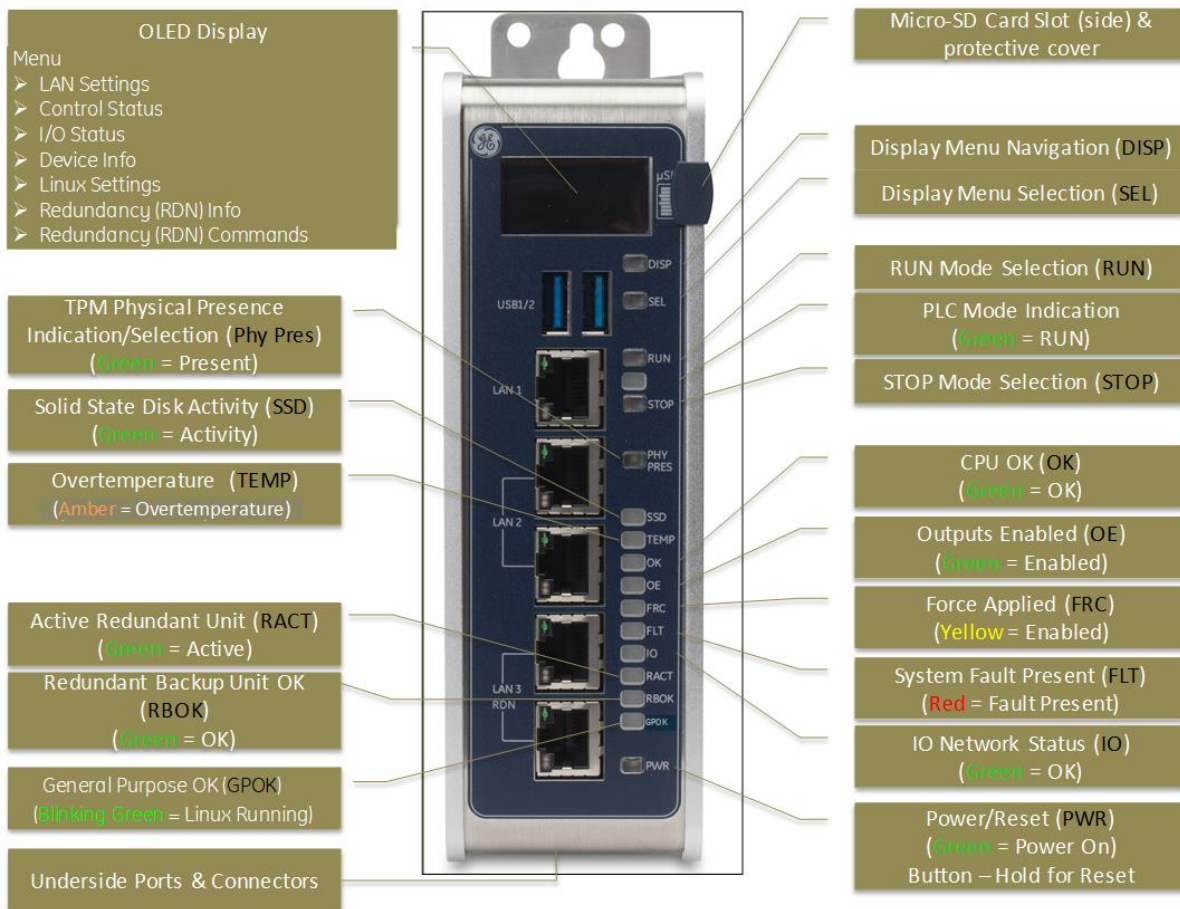

Figure 2: CPL410 Front View and Features
- Supports four independent 10/100/1000 Ethernet LANs. The three Ethernet ports located on the front panel, as shown in Figure 2, are exclusively assigned to the RX3i PLC: LAN1 attaches via the upper, dedicated RJ 45 connector. LAN2 and LAN3 each attach via a pair of internally-switched RJ 45 connectors. The fourth LAN, labeled ETH, is located on the underside (Figure 4), and is exclusively used for Linux connectivity.
All user-accessible switches are provided as pushbuttons on the front panel (Figure 2) as described below.
The monochrome organic light-emitting diode (OLED) display (Figure 2) is used to display CPL410 system menus. It interacts with the DISP pushbutton, which jogs the cursor from one menu item to the next, and with the SEL pushbutton, which activates the currently indicated menu item for further action.